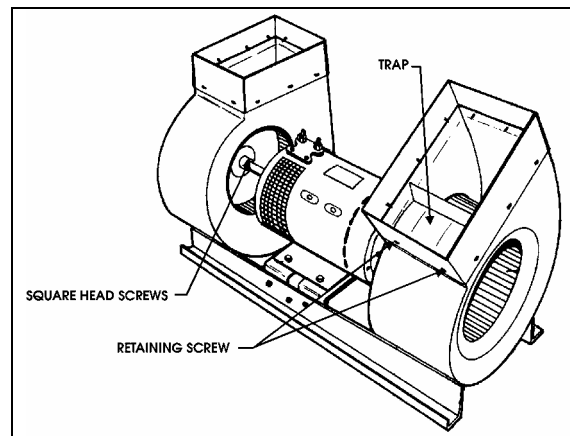

FIGURE 13: EVAPORATOR MOTOR ASSEMBLY
7. From under the vehicle, remove the eight bolts retaining the evaporator fan motor support. Remove the complete unit from the HVAC compartment (Fig. 13).